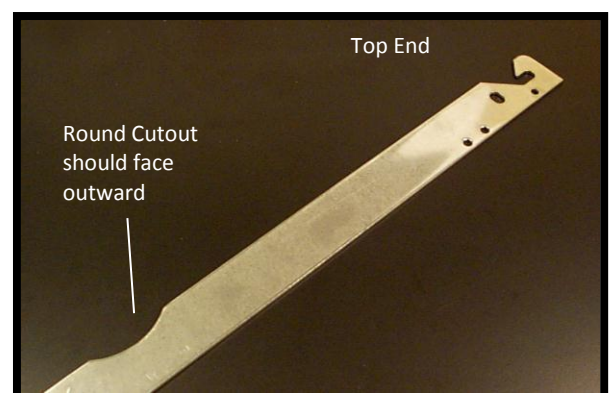

Figure 82: Latch Connector
3. Make sure the latch connector is right side- up (Figure 82).